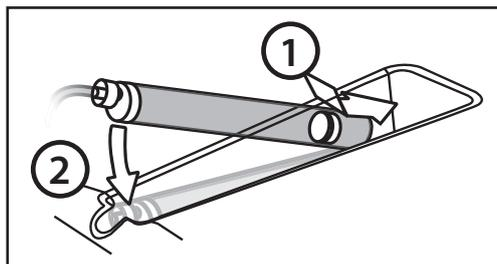

Figure 9. Loading Syringe.
8. Load the filled Syringe into the Syringe cradle (Figure 9).